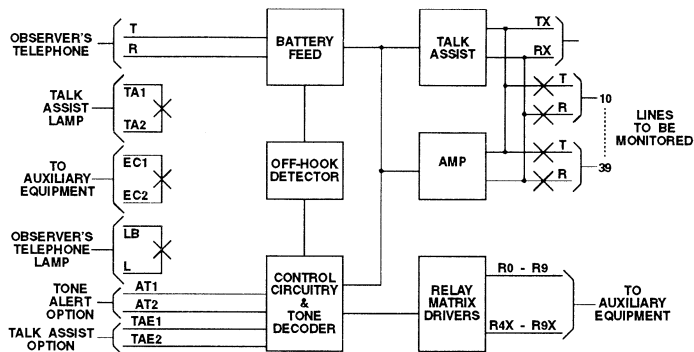

Fig. 1
4.05 When a lamp is used at the observer's telephone to indicate seizure of a line or station for monitoring, connect the station lamp lead to an L terminal of the connecting block, and lamp supply to the LB terminal. If necessary, derive lamp return ground from the common power supply ground. Refer to Figure 1.